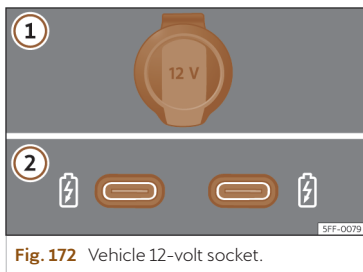

Fig. 172 Vehicle 12-volt socket.
>>> Fig. 172
Depending on the equipment and the country, the vehicle may also have USB connections **exclusively for charging or as a power socket** >>> Fig. 172 ②.